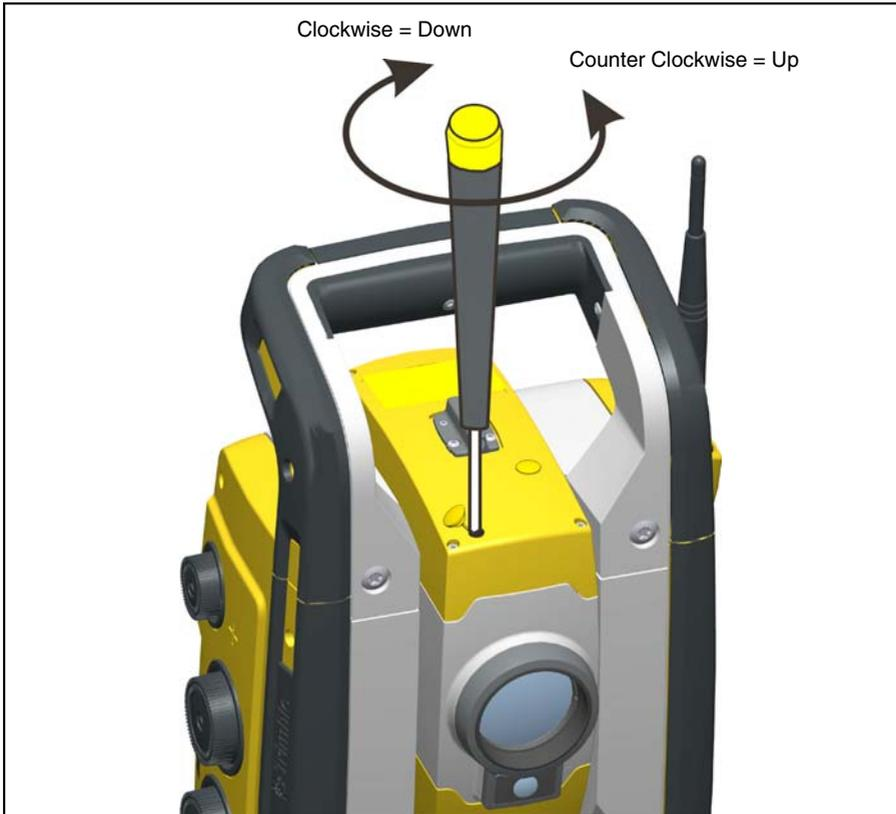

Figure 4.21 Vertical position adjustment
2. To correct the vertical position of the laser spot, insert the allen key into the vertical adjustment port and turn it as shown in figure 4.21.